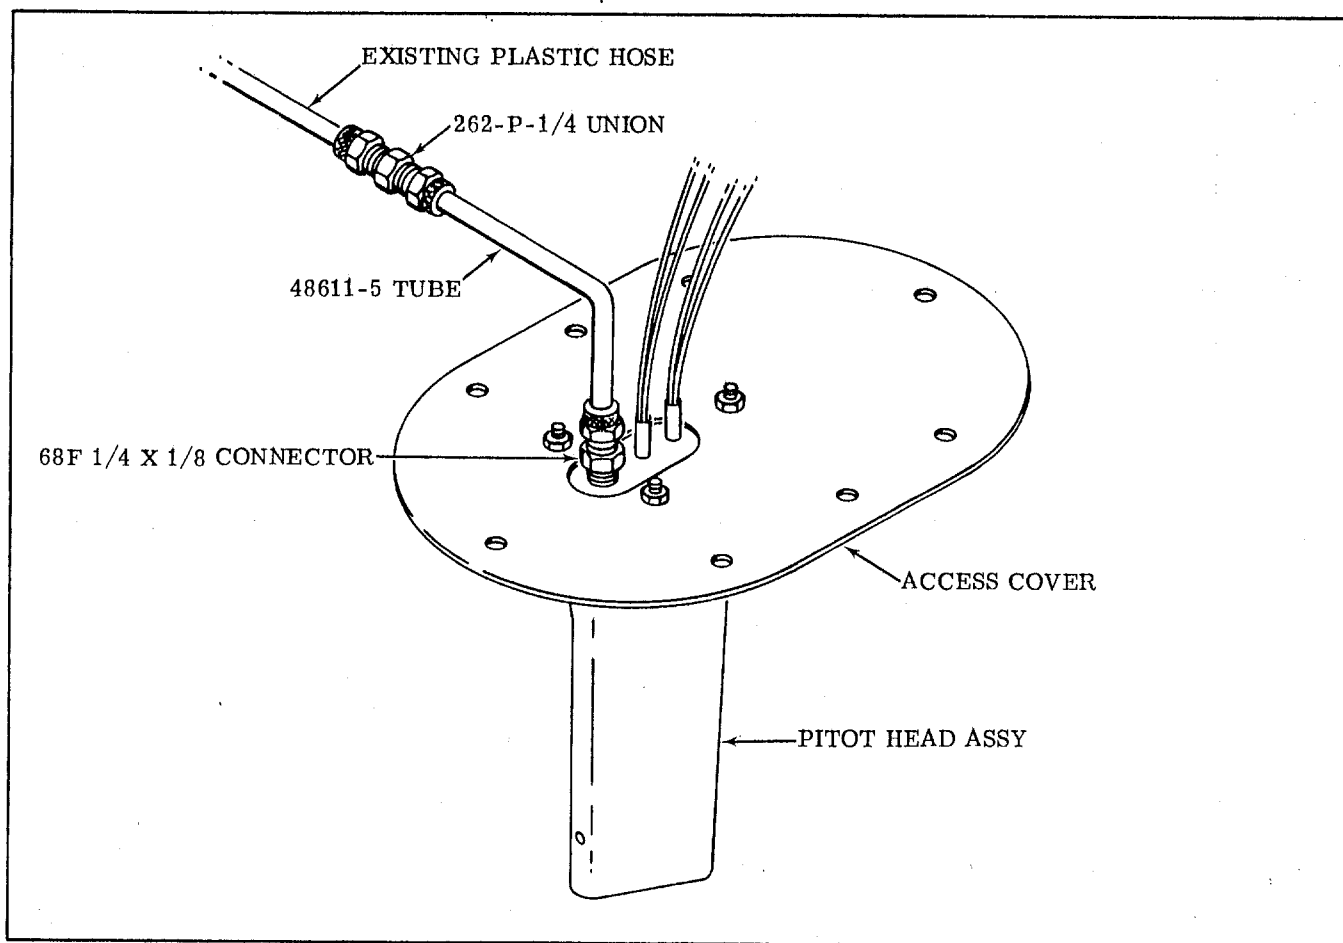

Figure 1.
4. Cut off seven (7) inches from end of existing plastic hose.
5. Install 48611-5 tube on pitot head assembly using 68F 1/4 X 1/8 connector (see Figure 1.).
6. Connect 48611-5 tube to existing plastic hose using 262-P-1/4 union (see Figure 1.).